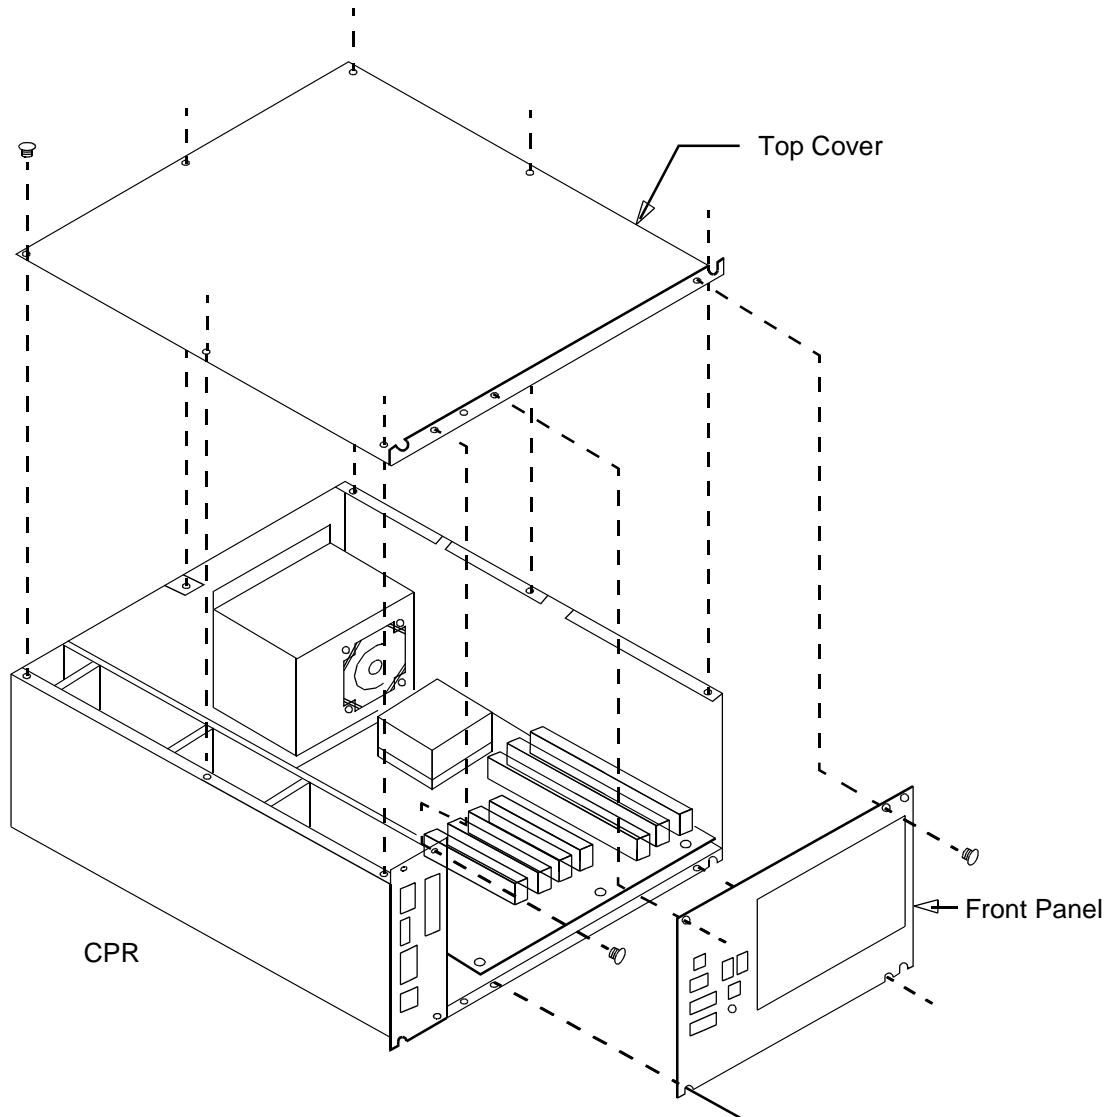

Figure 4-4 Removal of Front Panel and Top Cover from CPR
- STEP 1 Using the Phillips Screwdriver, remove the 4 + 8 screws. Then, detach the front panel and top cover from the new CPR. (Refer to Figure 4-4)
As shown in Figure 4-4, detach the front panel of the new CPR by removing the 4 screws. Then, also lift away the top cover by removing the 8 screws.